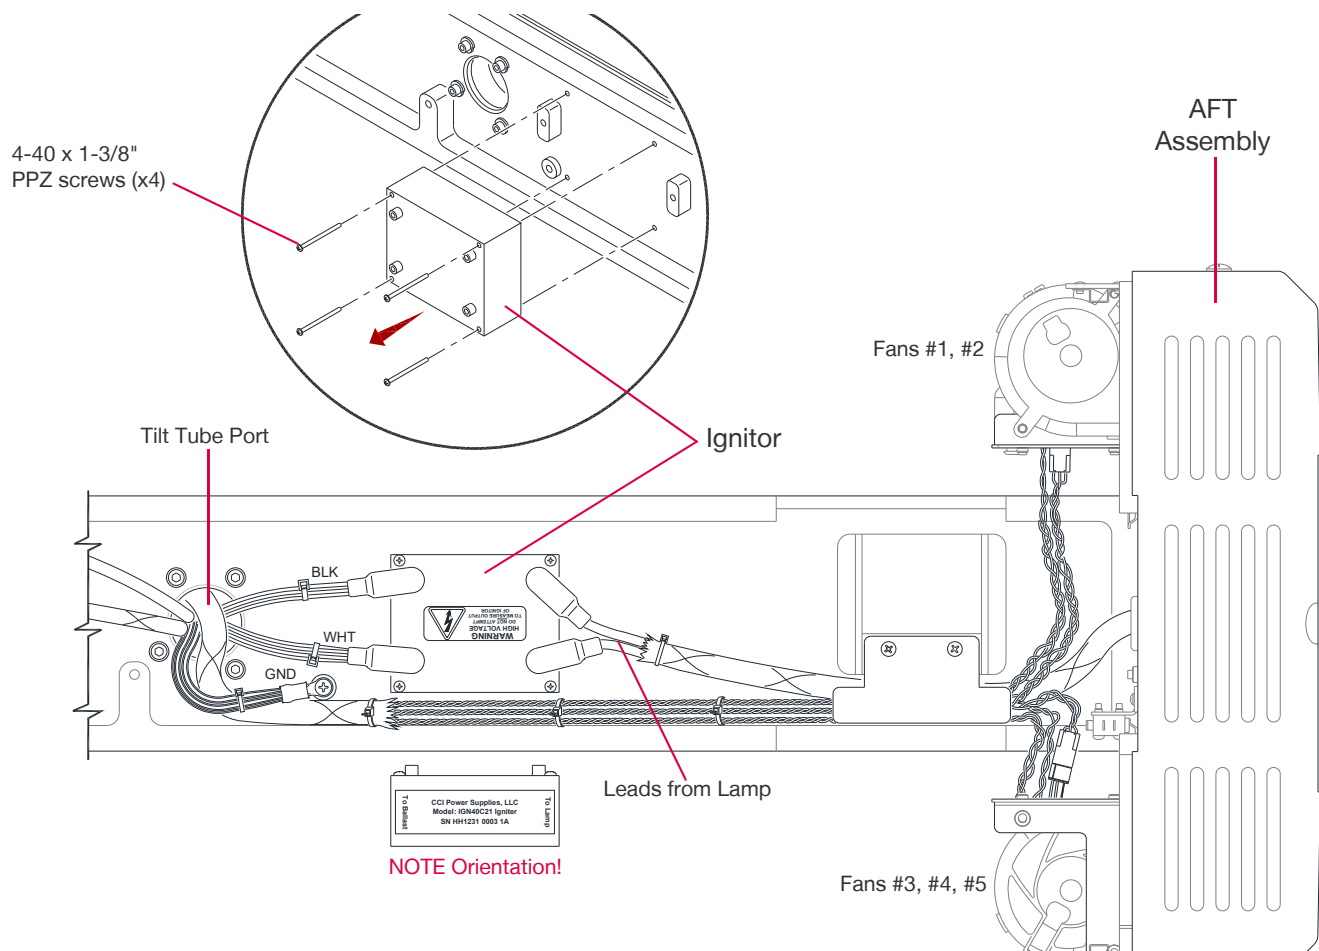

Figure 3-43: Replacing the Lamp Ignitor
- Step 4. Disconnect the four wires connected to the Ignitor. (**Figure 3-43**)
- Step 5. Remove the four 4-40 x 1-3/8" PPZ screws securing the Ignitor to the Camera-side Head Rail to remove or replace the Ignitor. **MAKE SURE to confirm Ignitor Orientation!!!** (**Figure 3-43**)